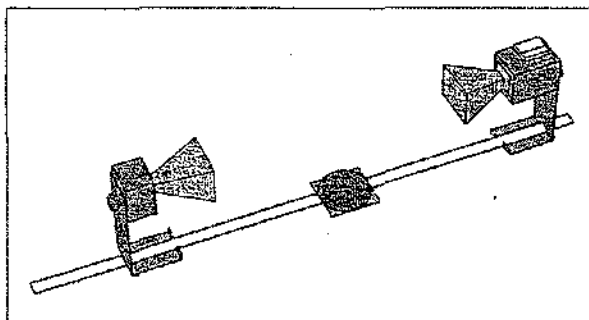

Figure 5.3 Equipment Setup
- ① Arrange the equipment as shown in Figure 5.3 and adjust the Receiver controls for nearly full-scale meter deflection.
- ② Loosen the hand screw on the back of the Receiver and rotate the Receiver in increments of ten degrees. At each rotational position, record the meter reading in Table 5.1.
- ③ What happens to the meter readings if you continue to rotate the Receiver beyond 180-degrees?